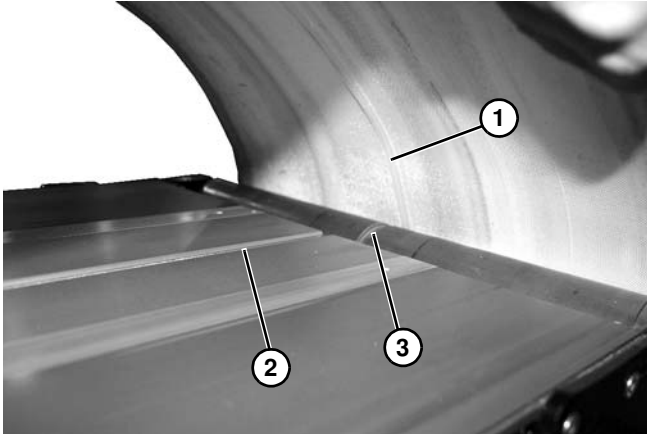

Figure 11
Verify V-Guide on belt (**Figure 11, item 1**), is aligned with V-Guide in frame (**Figure 11, item 2**) and tails (**Figure 11, item 3**).